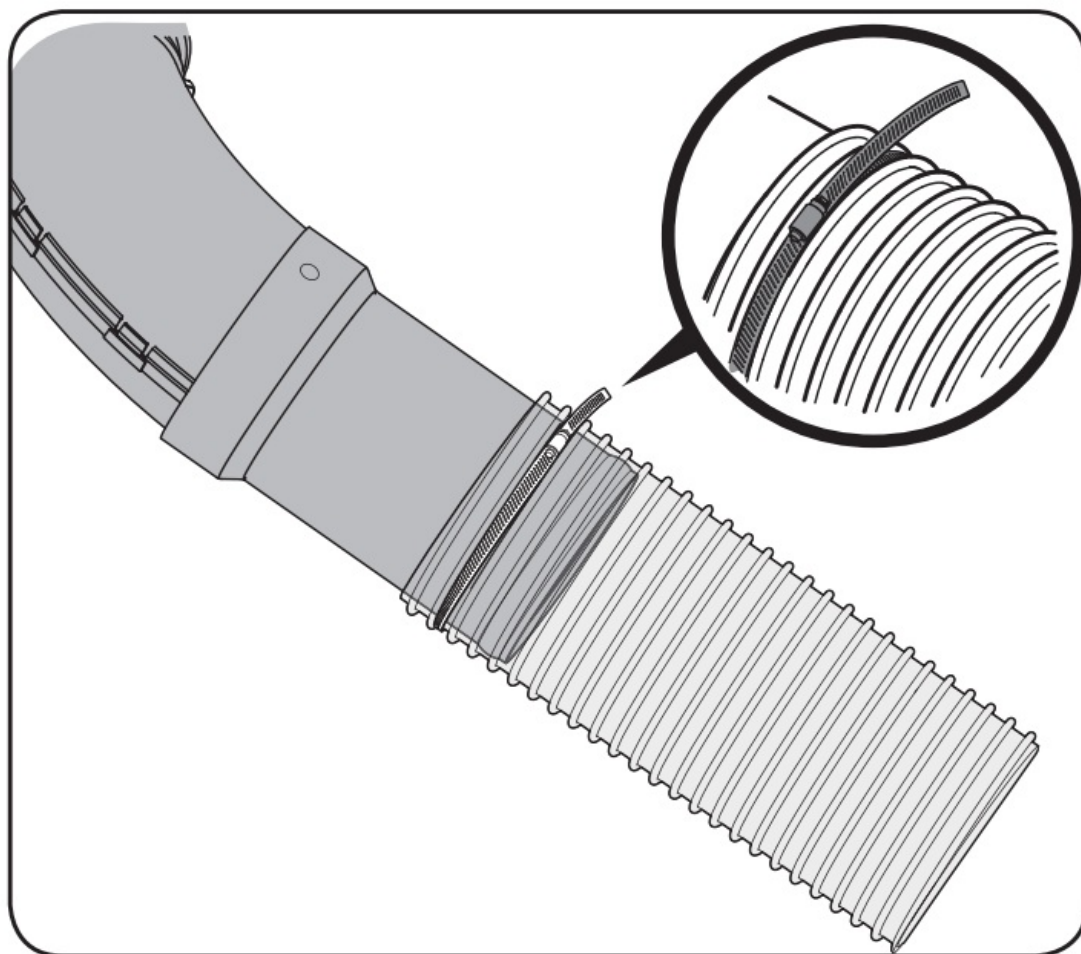

Figure 4-17
5. Install the upper chute and extension tube into the flexible hose extension as shown in Figure 4-17, positioning it over the wide adhesive rubber strip previously installed on the extension tube.
Note: Orientate the hose clamp so that it aligns over the wide adhesive rubber strip previously installed on the chute extension tube, and the excess from the clamp points inward and down with the tightening screw facing outward. See the inset of Figure 4-17.